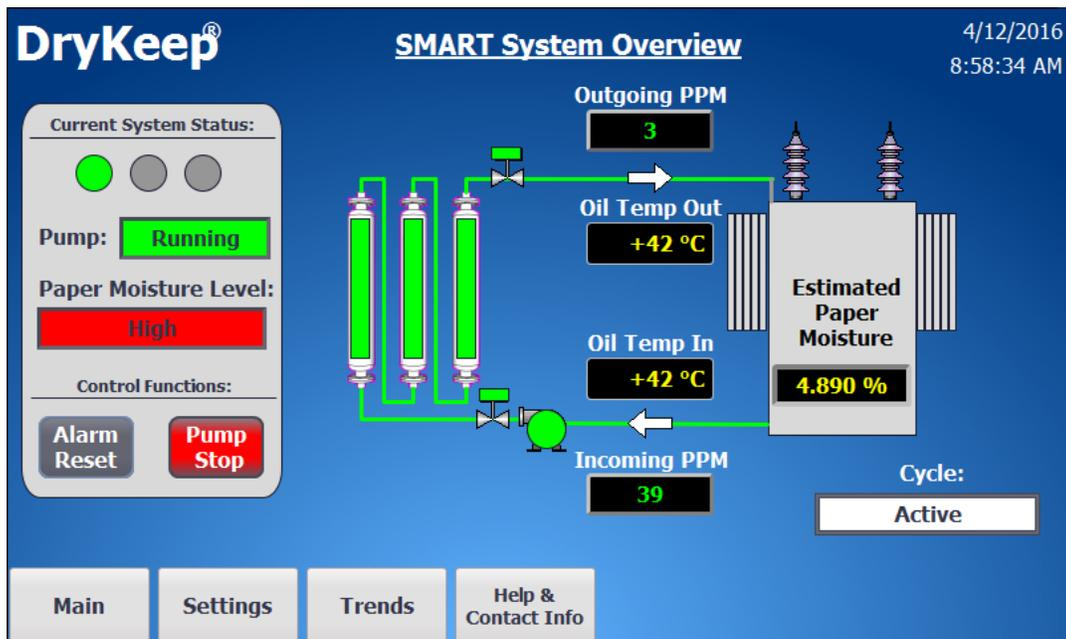

Figure 10: Main screen in Active Cycle for “wet” transformers
- 9) For transformers that are in-service and are considered to be “wet”, selecting “NO” again will start the DryKeep pump, open the inlet and outlet solenoid safety valves, and the system will enter the “Active” cycle. The SMART display will go to the Main screen shown in Figure 10.